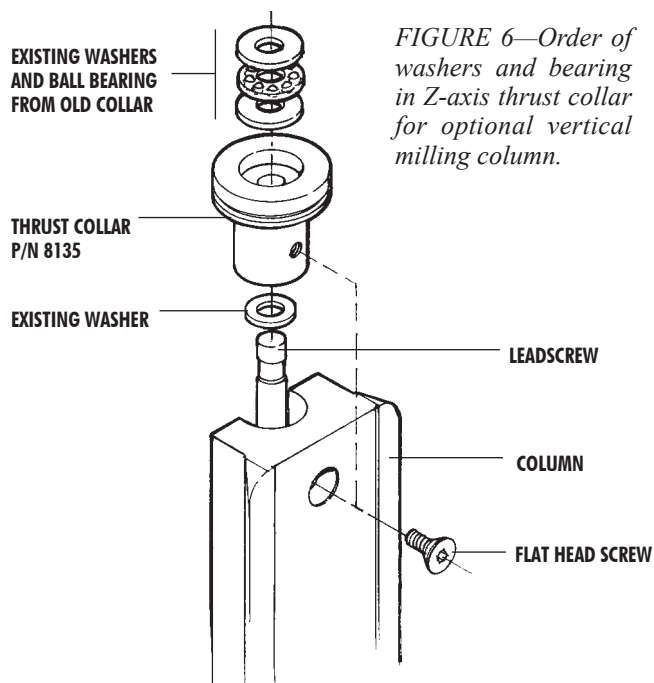

FIGURE 6—Order of washers and bearing in Z-axis thrust collar for optional vertical milling column.
7. **VERTICAL MILLING COLUMN**—Using a 1/8" hex wrench, remove the flat head screw that holds the Z-axis thrust collar to the vertical milling column. Remove the collar by lifting it up and off the leadscrew. If the spacer washer sticks to the bottom of it, remove it and reinstall it on the leadscrew shaft. Then remove the ball bearing thrust and two washers from the collar and reinstall them in the new Z-axis thrust collar in the same order. (See Figure 6.) Install the new collar on the leadscrew shaft and secure it to the bed with the flat head screw.